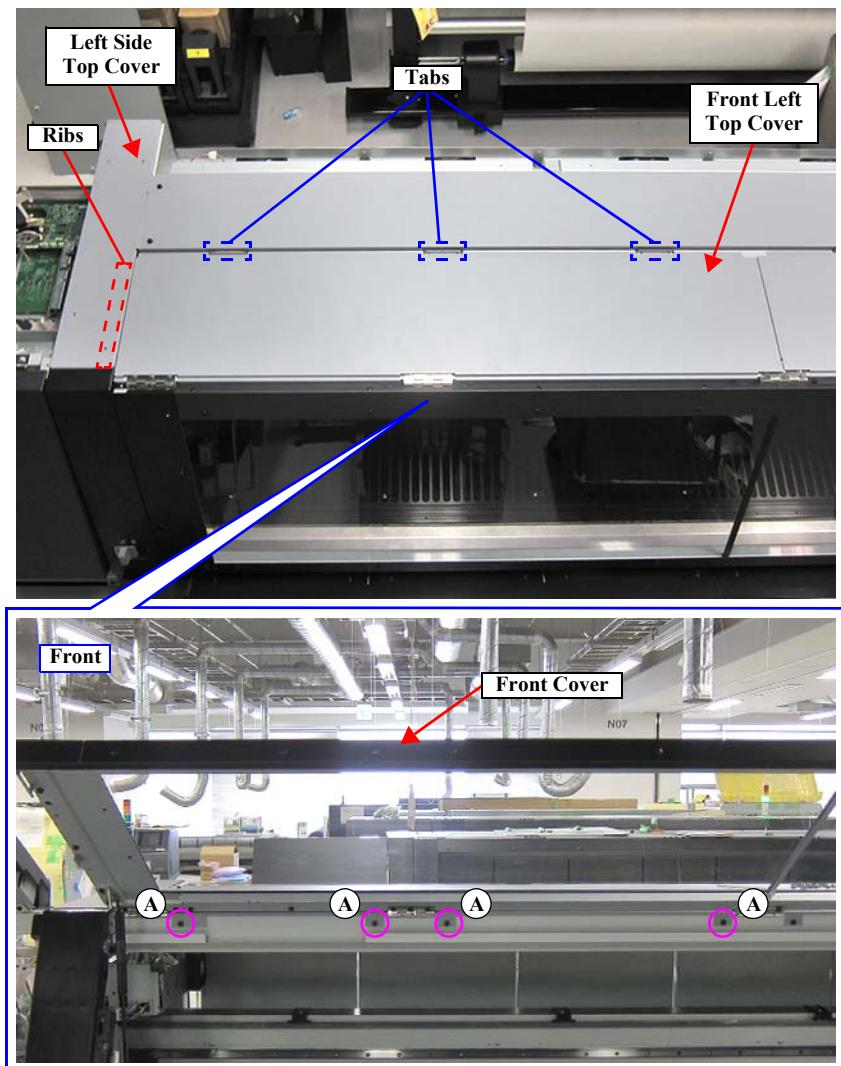

Figure 3-34.
- Insert the 3 tabs on the Front Left Top Cover into the positioning holes of the frame. (Figure 3-34)
- Insert the rib of the Front Left Top Cover beneath the Left Side Top Cover. (Figure 3-34)